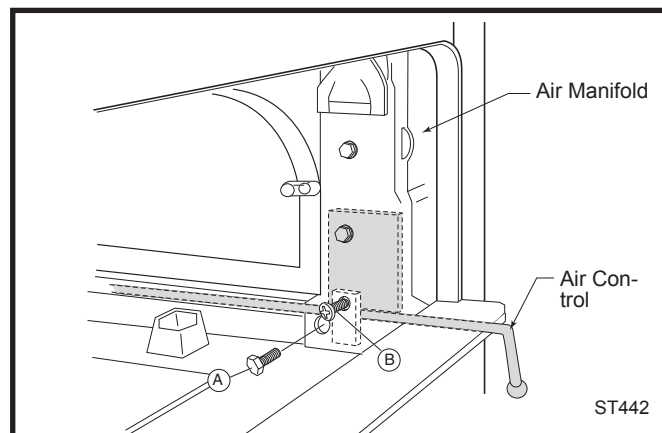

Fig. 25 Primary air control adjustment.
Over time, the air control may tighten or loosen. To adjust the tension on the control, let the stove cool to room temperature. Open the side-loading door and look in toward the inner side of the front panel of the stove. (Fig. 25) Locate the lower hex head bolt (A) on the primary air manifold, just inside the door. Remove the bolt with an open end or box end wrench to gain access to the adjustment screw (B) inside the manifold. Insert a Phillips screwdriver into that hole and turn the screw clockwise to increase tension, counterclockwise to decrease tension. Make adjustments in small increments and test the operation. Replace the hex head bolt when you are done.